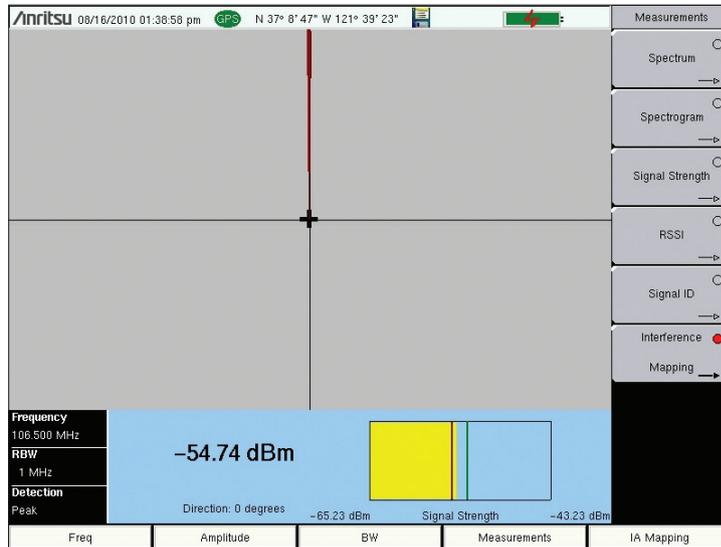

Figure 5: Measurements Menu
3. Press the **Measurements** soft key to load up the Measurements submenu. (Figure 5)
4. In the new submenu, press soft key **Interference Mapping**. (Figure 5)
3. Press **Enter** on the keypad. The instrument then opens the Measurements submenu. (Figure 5)